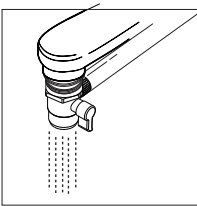

Figure 1.4
- Switch the lever to the downward direction to get tap water. **[Figure 1.4]**